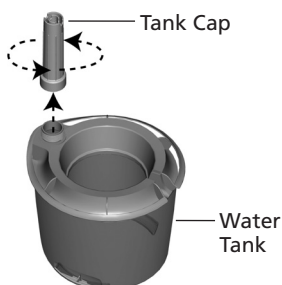

Figure 10
3. Turn the Water Tank over and unscrew the Tank Cap by twisting it counterclockwise. See Figure 10.